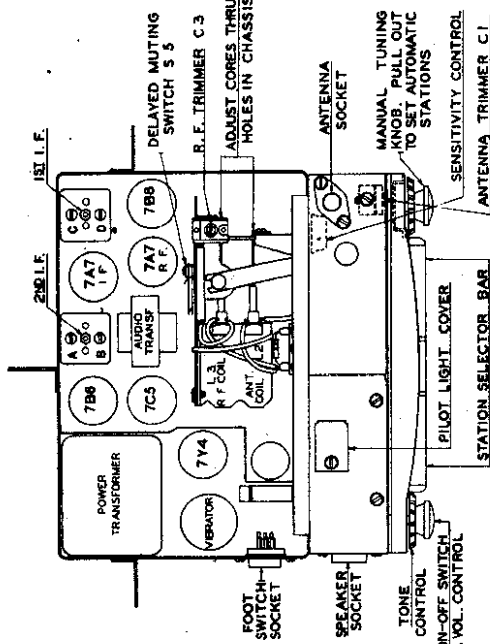
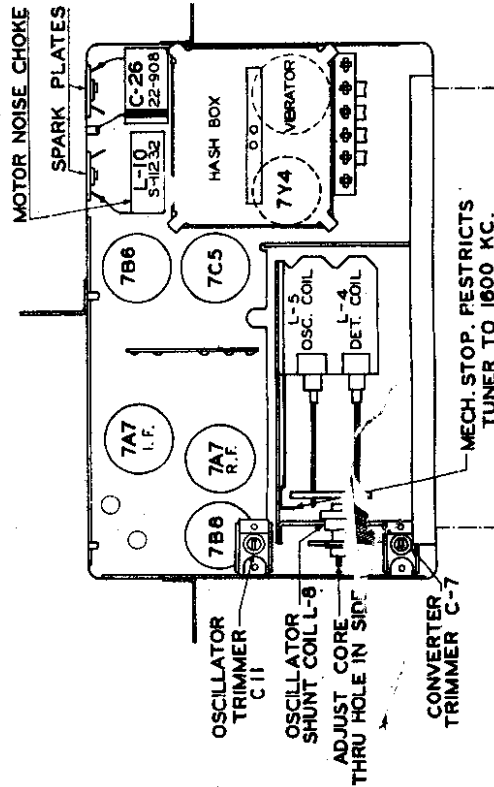

Fig. 7. Top View of Chassis
Fig. 8. Bottom View of Chassis
- 6—Adjust oscillator trimmer C-11 (Fig. 8) at 1700 Kc.
- 7—Adjust converter trimmer C-7, R.F. trimmer C-3, and antenna trimmer C-1 (Fig. 7 and 8) for maximum output reading.
- 10—Adjust oscillator core L-5 (Fig. 8) to scale at 1200 Kc.
- 11—Adjust the antenna core, R.F. core, and converter core (Fig. 7 and 8) for maximum output reading.
- 13—"Rock in" shunt oscillator coil L-8 (Fig. 8) for maximum output reading. This should be done only as a last resort. This is the same as rodding in the podder condenser on a ganged condenser receiver.
- 4—Adjust I.F. trimmers A, B, C and D (Fig. 7) in the order named for maximum output. Repeat the operation to assure accurate alignment.
- 4—Adjust oscillator trimmer C-11 (Fig. 8) for maximum response.
- 7—Adjust converter trimmer C-7 (Fig. 8) and R.F. trimmer C-3 (Fig. 7) for maximum response.